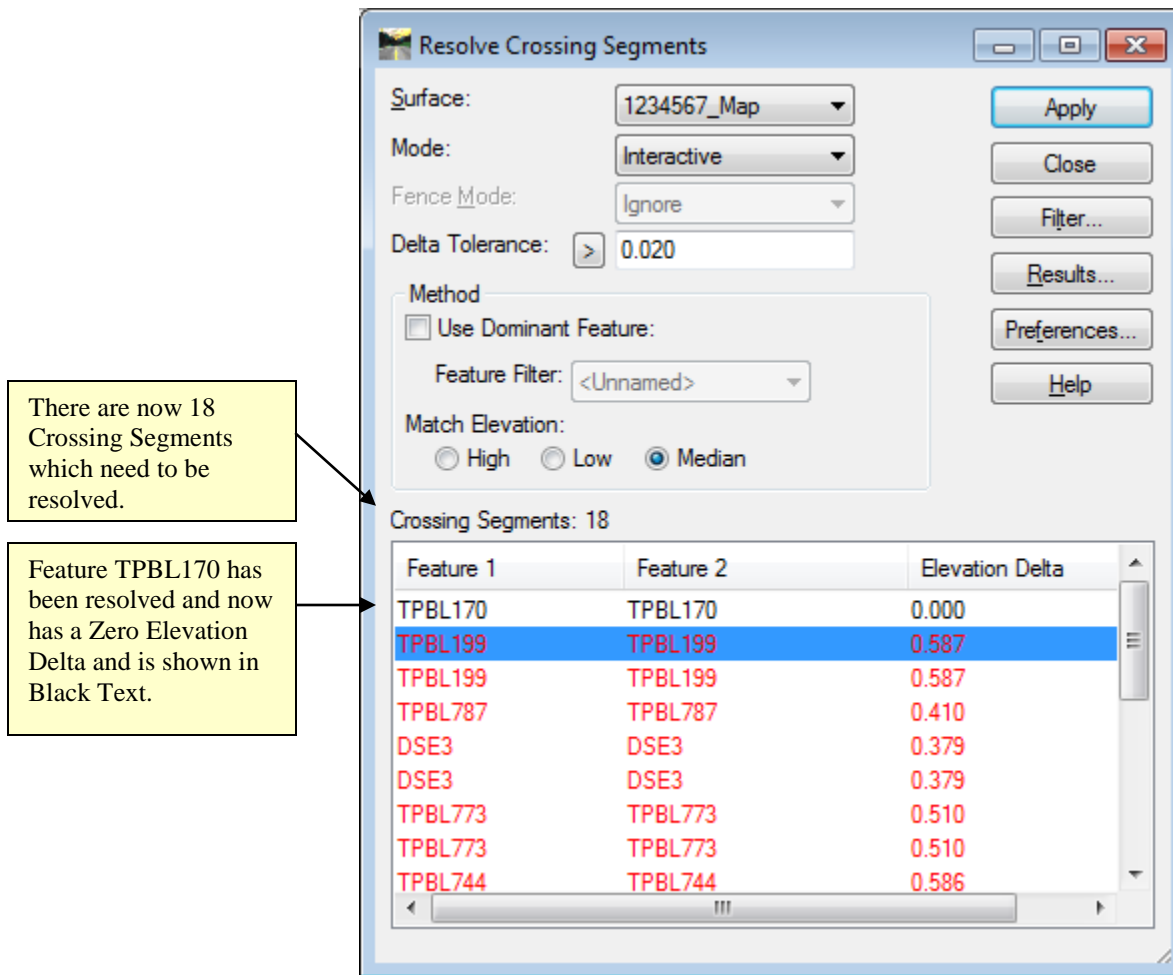

Figure L3-8 Resolve Crossing Segments – Interactive
22.	<ul style="list-style-type: none"> Next, Right Click on the Blue Highlighted line of <div data-bbox="380 863 1013 898" style="border: 1px solid black; background-color: #0070C0; color: white; padding: 2px; display: inline-block;"> TPBL170 TPBL170 0.387 </div> and a right click menu will appear: <div data-bbox="371 968 784 1266" style="border: 1px solid #ccc; background-color: #f0f0f0; padding: 5px; margin: 10px 0;"> <div>Insert Point</div> <div>Partial Delete</div> <div>Display Features</div> <div>Select All Ctrl+A</div> <div>Select None Ctrl+N</div> <div>Invert Selection</div> </div> Select the Display Features command and the TPBL170 feature will appear in the MicroStation view. This allows you to see the crossing intersection of the Feature (s). Again, Right Click on the Blue Highlighted line of <div data-bbox="380 1457 1013 1493" style="border: 1px solid black; background-color: #0070C0; color: white; padding: 2px; display: inline-block;"> TPBL170 TPBL170 0.387 </div> and the right click menu will appear. Select the Insert Point command. A MEDIAN point will automatically be inserted. The Elevation Delta will then change to Zero and the Features will no longer have Red text but will change to a Black Text. <p>The Resolve Crossing Segments dialog should now correspond to the screen capture depicted in Figure L3-8 (as shown below). Verify to ensure that your input matches the screen capture.</p>